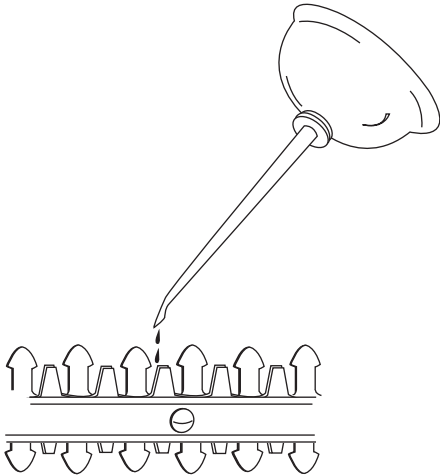

Fig. 6
1. For easier operation and longer blade life, lubricate the hedge trimmer attachment blade before and after each use. Before lubricating, be sure the powerhead is turned OFF. Apply light machine oil along the edge of the top blade strap (Fig. 6).